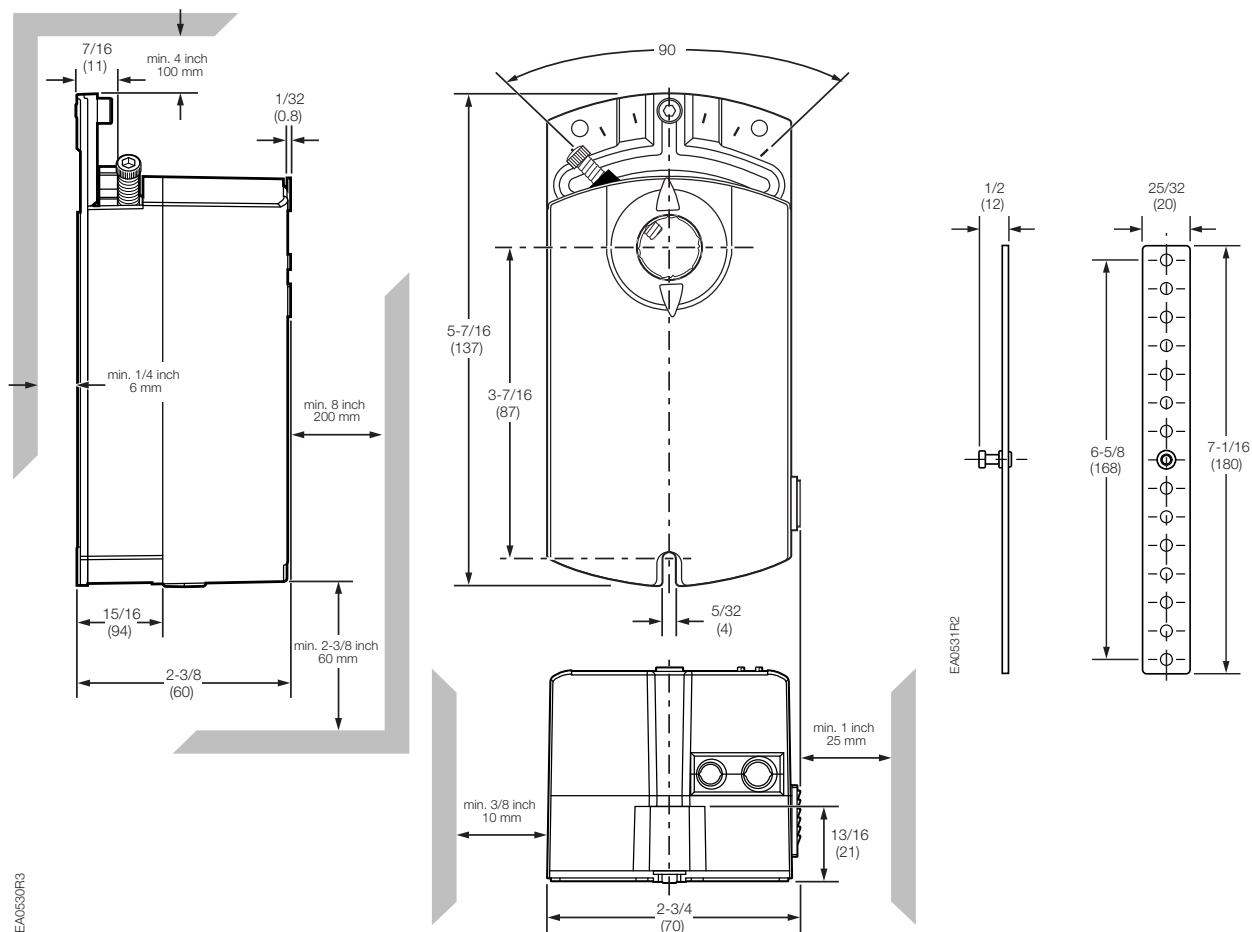

Figure 8. Dimensions of the SmartX Actuator and Anti-rotation Bracket.
- Observe the service envelope around the actuator as shown in Figure 8.